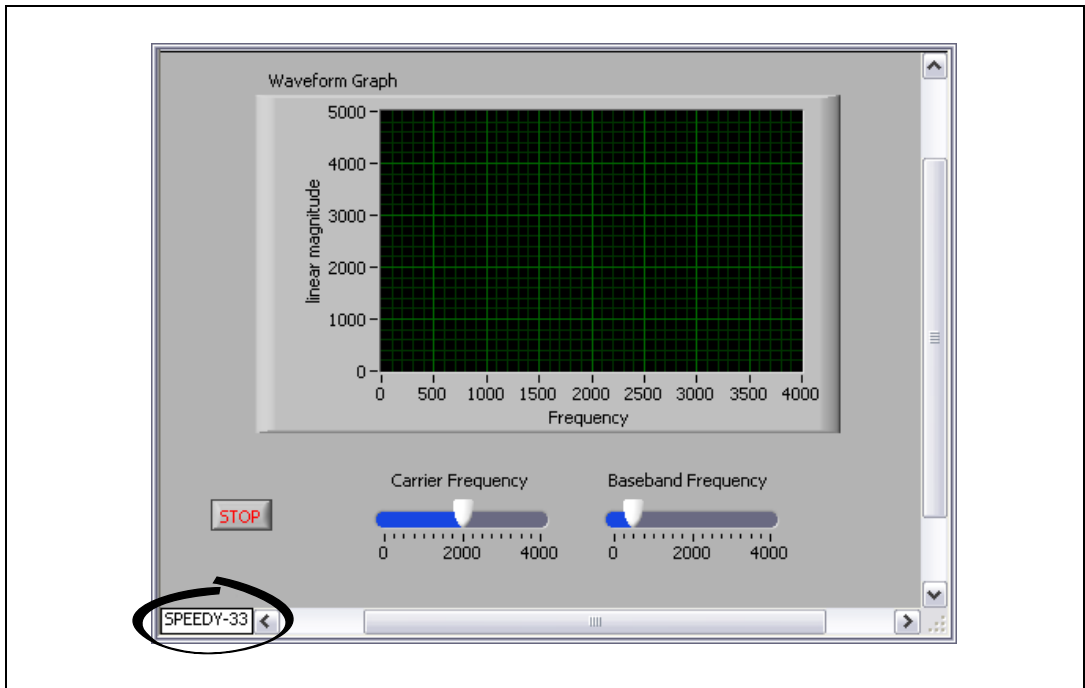

Figure 5. Checking the Application Instance for the Correct Target
2. Make sure the DSP VI targets the correct application instance by looking in the bottom left corner of the front panel or block diagram window, as shown in Figure 5.